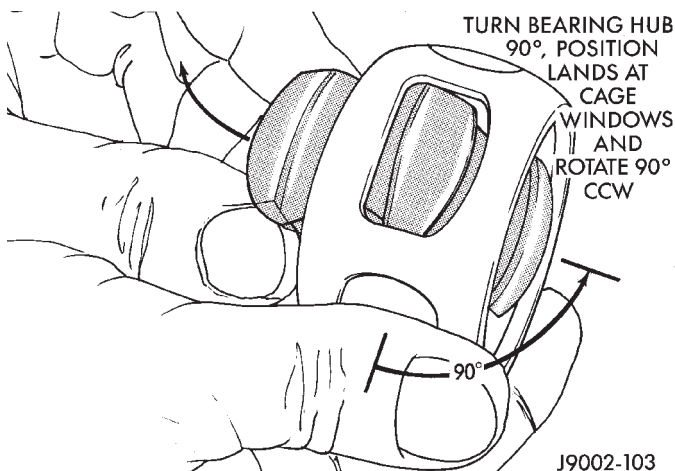

Fig. 17 Bearing Hub Removal
(13) Turn the bearing hub 90° from the bearing cage. Align one pair of the hub lands with the cage windows. Raise and insert one of the lands into the adjacent cage window. Remove the bearing hub by rolling it out of the cage (Fig. 17).
(3) Insert one of the bearing hub lands into a bearing cage window (Fig. 17). Roll the hub into the cage (Fig. 18). Rotate the bearing hub 90° to complete the installation (Fig. 19).